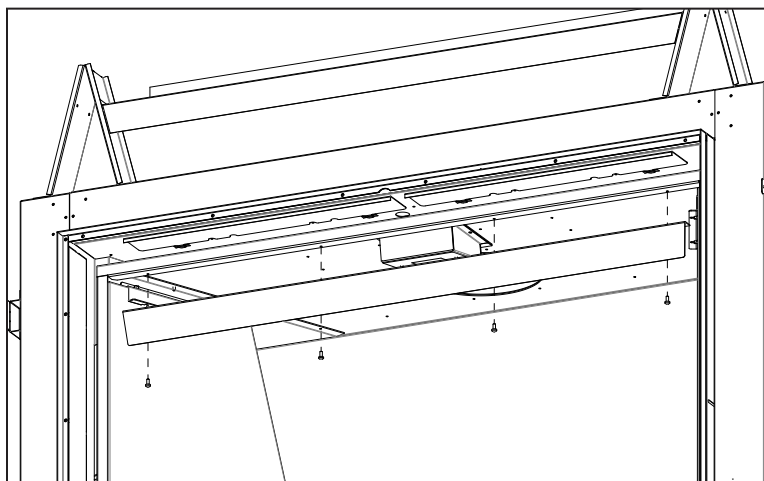

Figure 73: Light Deflector Removal
Step 2. Remove light deflector by removing the four (4) retaining T-20 screws (see Figure 73).